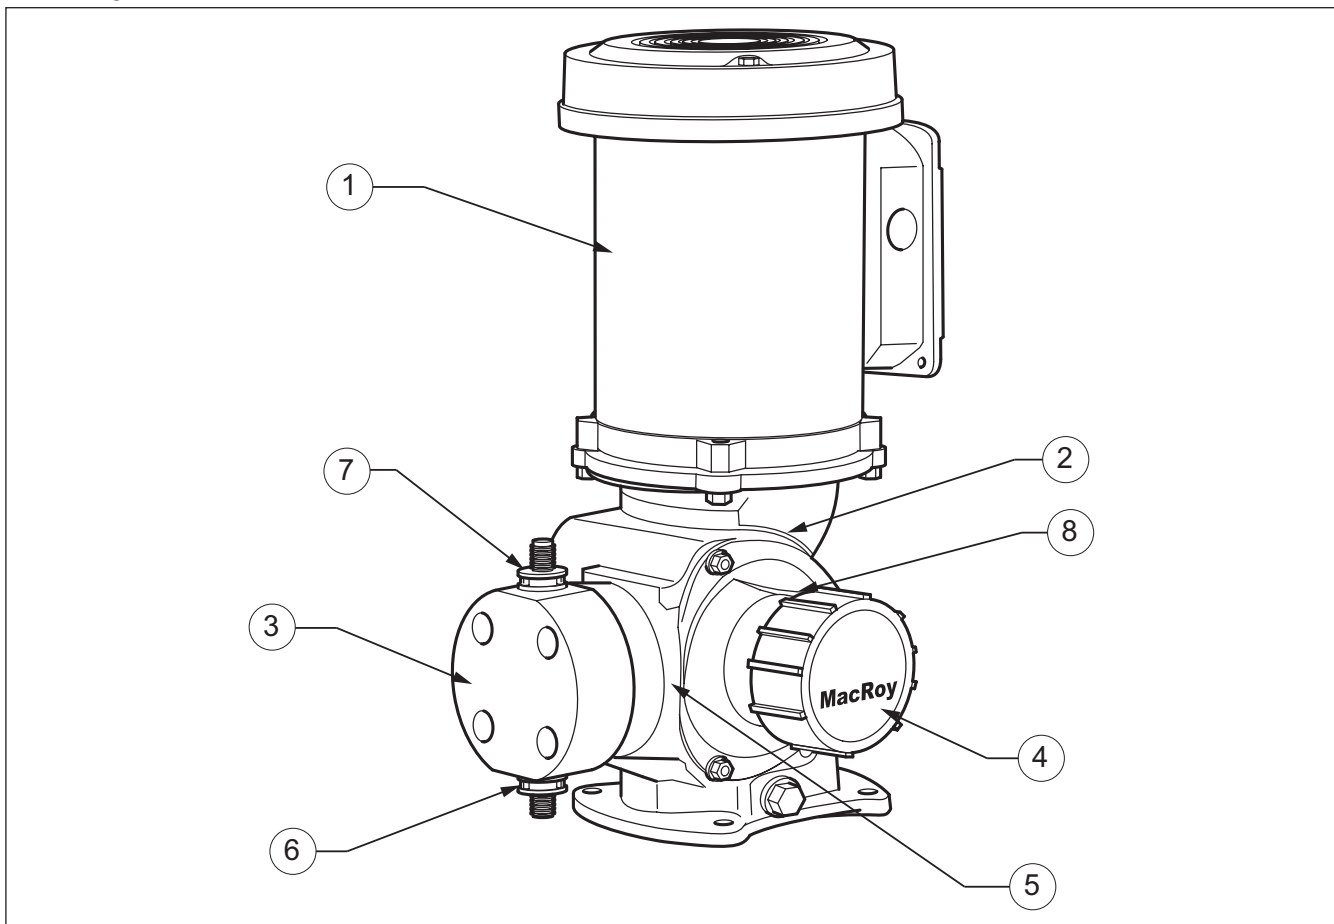

Figure 1. Pump Assembly
The basic pump components as illustrated in *Figure 1* are:
1. Remove motor and flood the gearbox compartment (Item 2 in *Figure 1*) with a high grade lubricating oil / rust preventative such as Mobile Oil Corporation product Mobilarma 524. Fill the compartment completely to minimize air space and water vapour condensation. After storage, drain this material and refill the equipment with the recommended lubricant for equipment commissioning.
In the event of a failure of the diaphragm or oil seal bellows, provisions need to be made to contain the process fluid or pump oil. This is particularly important when handling fluids which may be harmful to plant personnel. To collect fluid in the event of a diaphragm or oil seal rupture, (See *Figure 1*) position a tray under the plain hole located at the bottom of the liquid end mounting assembly (5). For D7 or D8 pumps, position tray under tube fitting located at bottom of liquid end mounting assembly. Alternatively, a tube may be installed onto this tube fitting to drain any leakage to a suitable container.